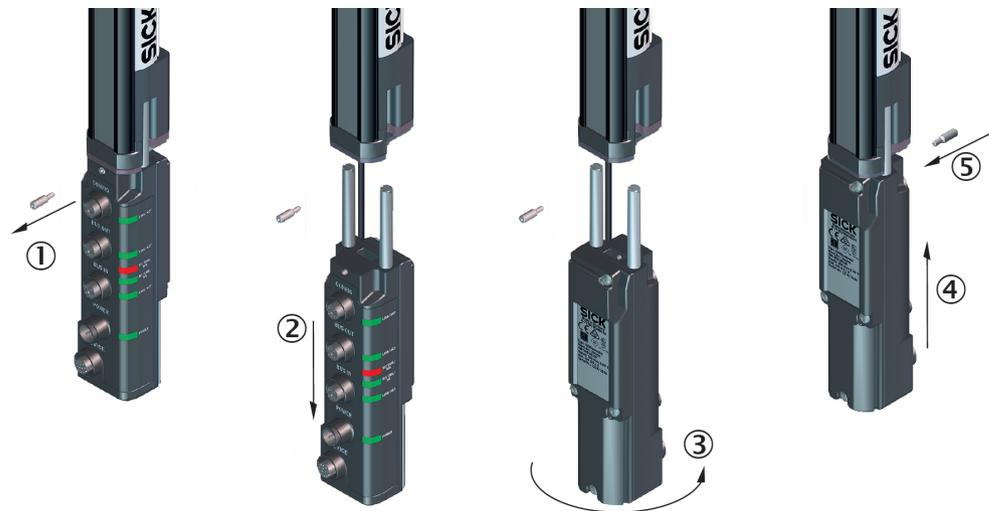

Figure 40: Turn the fieldbus module by 180°
- ▶ Remove the fieldbus module as described (see figure 40, page 47).